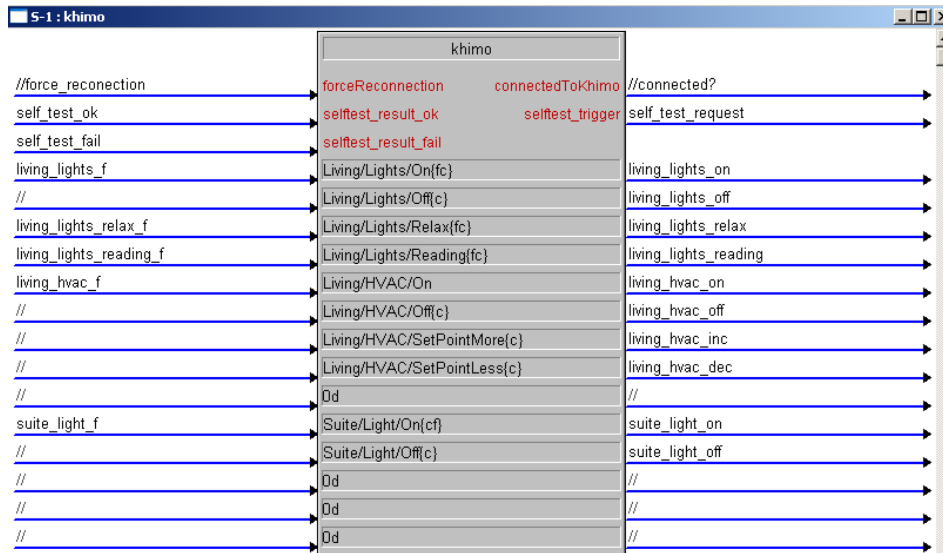

Figure 1: Signals defined in Crestron
- Connection monitoring (Figure 1).
- System self test (Figure 1).
As shown in figure 1, the Khimo module provides 2 connection signals: